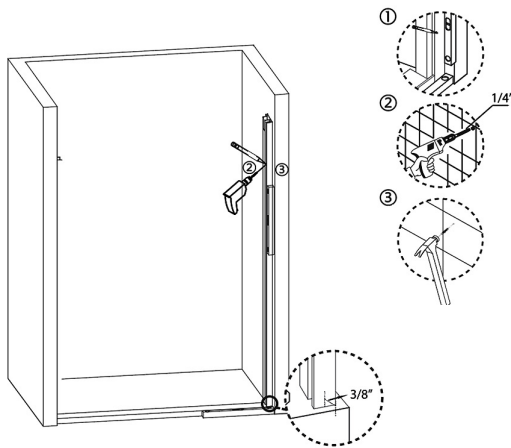

FIGURE 1
(See Figure 1). Ensure unit is level (1). Measure the position of wall jambs and mark and drill 1/4" holes accordingly. Insert anchors (3). Place the Capital curb onto shower base (5). Make sure wall jambs and curb are plumb.